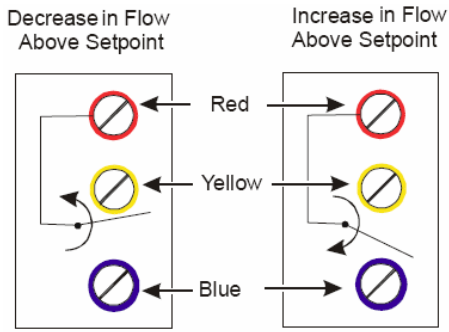

Figure 2 Switch Action
The SPDT switch on the FS80-C has color-coded terminals. Red is common, and closed to Blue upon flow increase and to Yellow upon flow decrease. See Figure 2 and Table 1 for switch action and flow rates.
2. For higher flow rates, turn the adjusting screw clockwise. To lower the flow rates after it has been raised from the factory setting, turn the adjusting screw counterclockwise. See Figure 2.